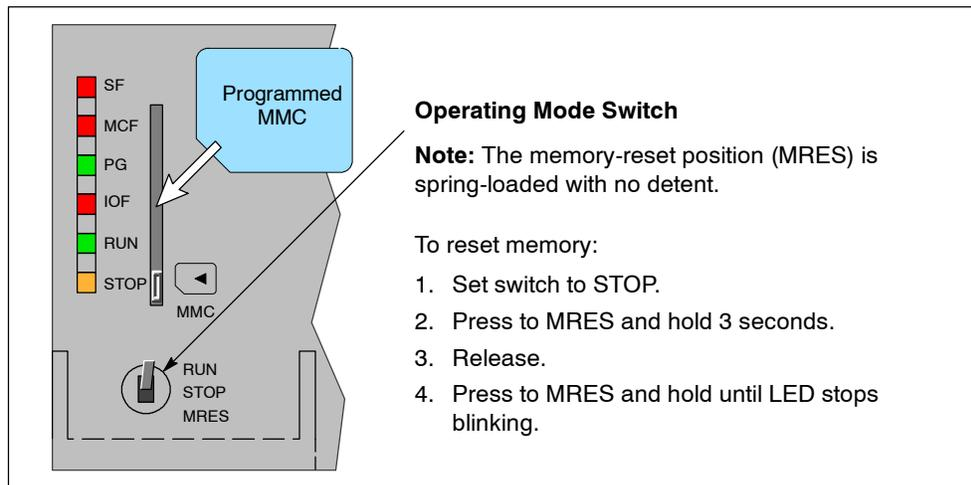

Figure 5-18 Resetting the Memory
2. Press the mode switch to the MRES position (see Figure 5-18), and hold it until the STOP status LED turns off, then back on (about 3 seconds).